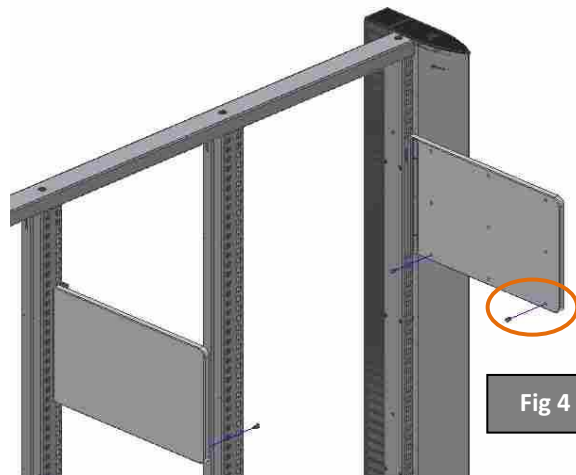

Fig 4
STEP 2 – Insert the 4 **M5x12 DIN785 Phillips screws** of the ends of the **sides** without fully tightening them (Fig. 4 and 5).